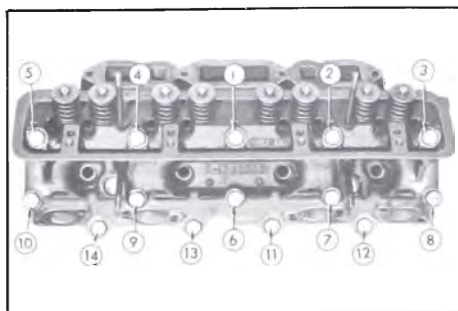

Figure 2-26—Cylinder Head Bolt Tightening Sequence
(1) When handling thin crimped steel gaskets use care to prevent damage to the lacquered surface coat and to prevent kinking at sealing rings stamped in gasket. The lacquered gasket should not be coated with any type of sealing material when installed. Always use a new steel gasket because the stamped sealing rings are flattened in a used gasket.
(2) Right and left cylinder heads are identical except that the water inlet port is open at front end and is plugged at rear end as installed on engine.
(3) After installation of cylinder head, tighten all bolts a little at a time about three times around in sequence shown in Figure 2-26, then finally tighten in same sequence to 65-75 ft. lbs. torque.